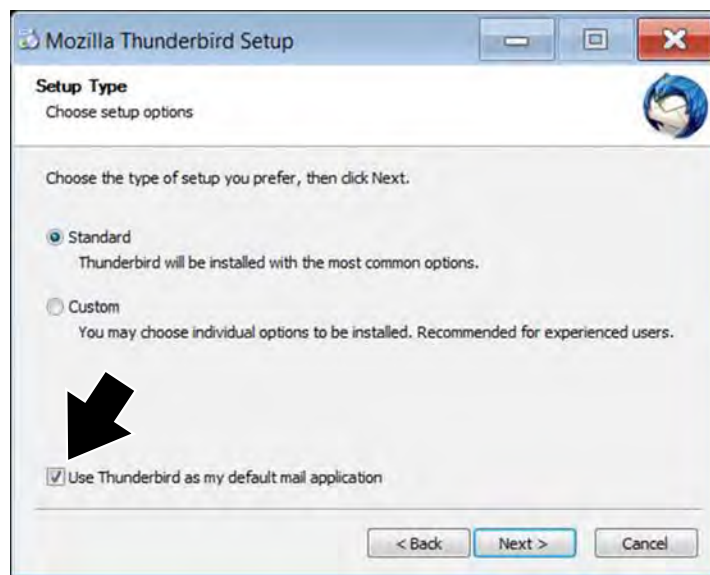

Figure 12-11
3. Continue through the setup. If available choose "set as my default mail application" (Figure 12-11).